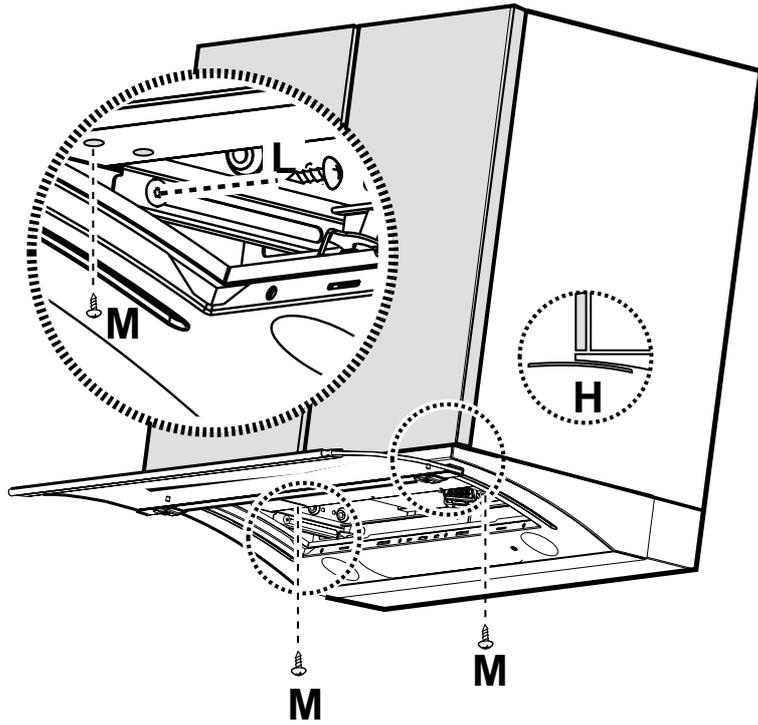

Fig. 8
7. Regulate the cooker hood cabinet base in order that the frontal part is in line with the cabinet (H - fig. 8) then block the cooker hood cabinet base using 2 screws (one per side - L - fig. 8 – To insert these two screws you will need to remove the filter grill and screw them on the inserts that are fixed on the mantel guides).
8. Fix the cooker hood cabinet base to the cabinet using the 2 screws M (fig. 8), use 2 of 4 perforations available and check that the screws are fixed to the cabinet.